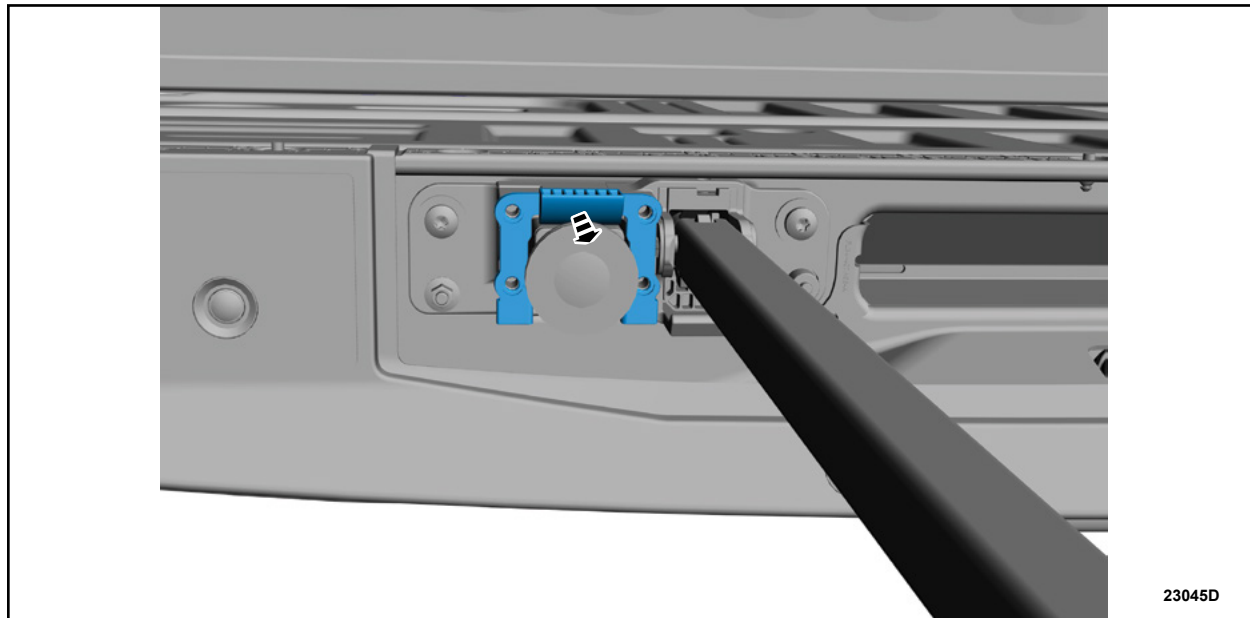

FIGURE 5
2. Remove the cover plate overmold. See Figure 5.